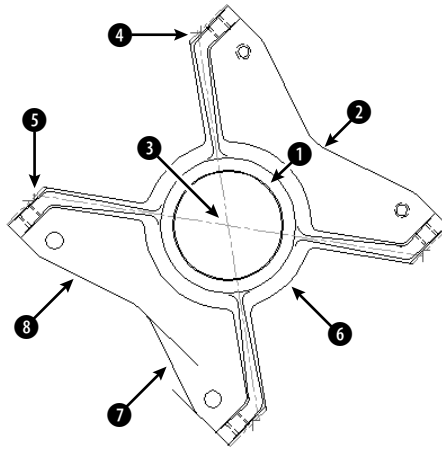

Figure 14-18: A bearing housing for an industrial washing machine.
2. Save the file as `ab14-04.dwg` in your AutoCAD Bible folder. This is a view of a bearing housing for an industrial washing machine, as shown in Figure 14-18. OSNAP should be on. Set running object snaps to endpoint, intersection, and center. If the Dimension toolbar isn't visible, right-click any toolbar and check Dimension.
4.  Choose Diameter Dimension from the Dimension toolbar. At the **Select arc or circle:** prompt, choose the outer of the two circles at **1** in Figure 14-18. At the **Specify dimension line location or [Mtext/Text/Angle]:** prompt, pick a location for the dimension line.
5.  Choose Radius Dimension from the Dimension toolbar. At the **Select arc or circle:** prompt, choose **2** from Figure 14-18. At the **Specify dimension line location or [Mtext/Text/Angle]:** prompt, pick a location for the dimension line. The line may appear to the left of the angle; try moving the cursor until the dimension appears to its right.
Specify angle vertex: *Pick 3 in Figure 14-18.*
8. Repeat the DIMANGULAR command. At the **Select arc, circle, line, or press ENTER:** prompt, pick **7** in Figure 14-18. At the **Second line:** prompt, pick **8**. At the **Dimension arc line location (Mtext/Text/Angle):** prompt, pick a location for the dimension line to the left of the model.